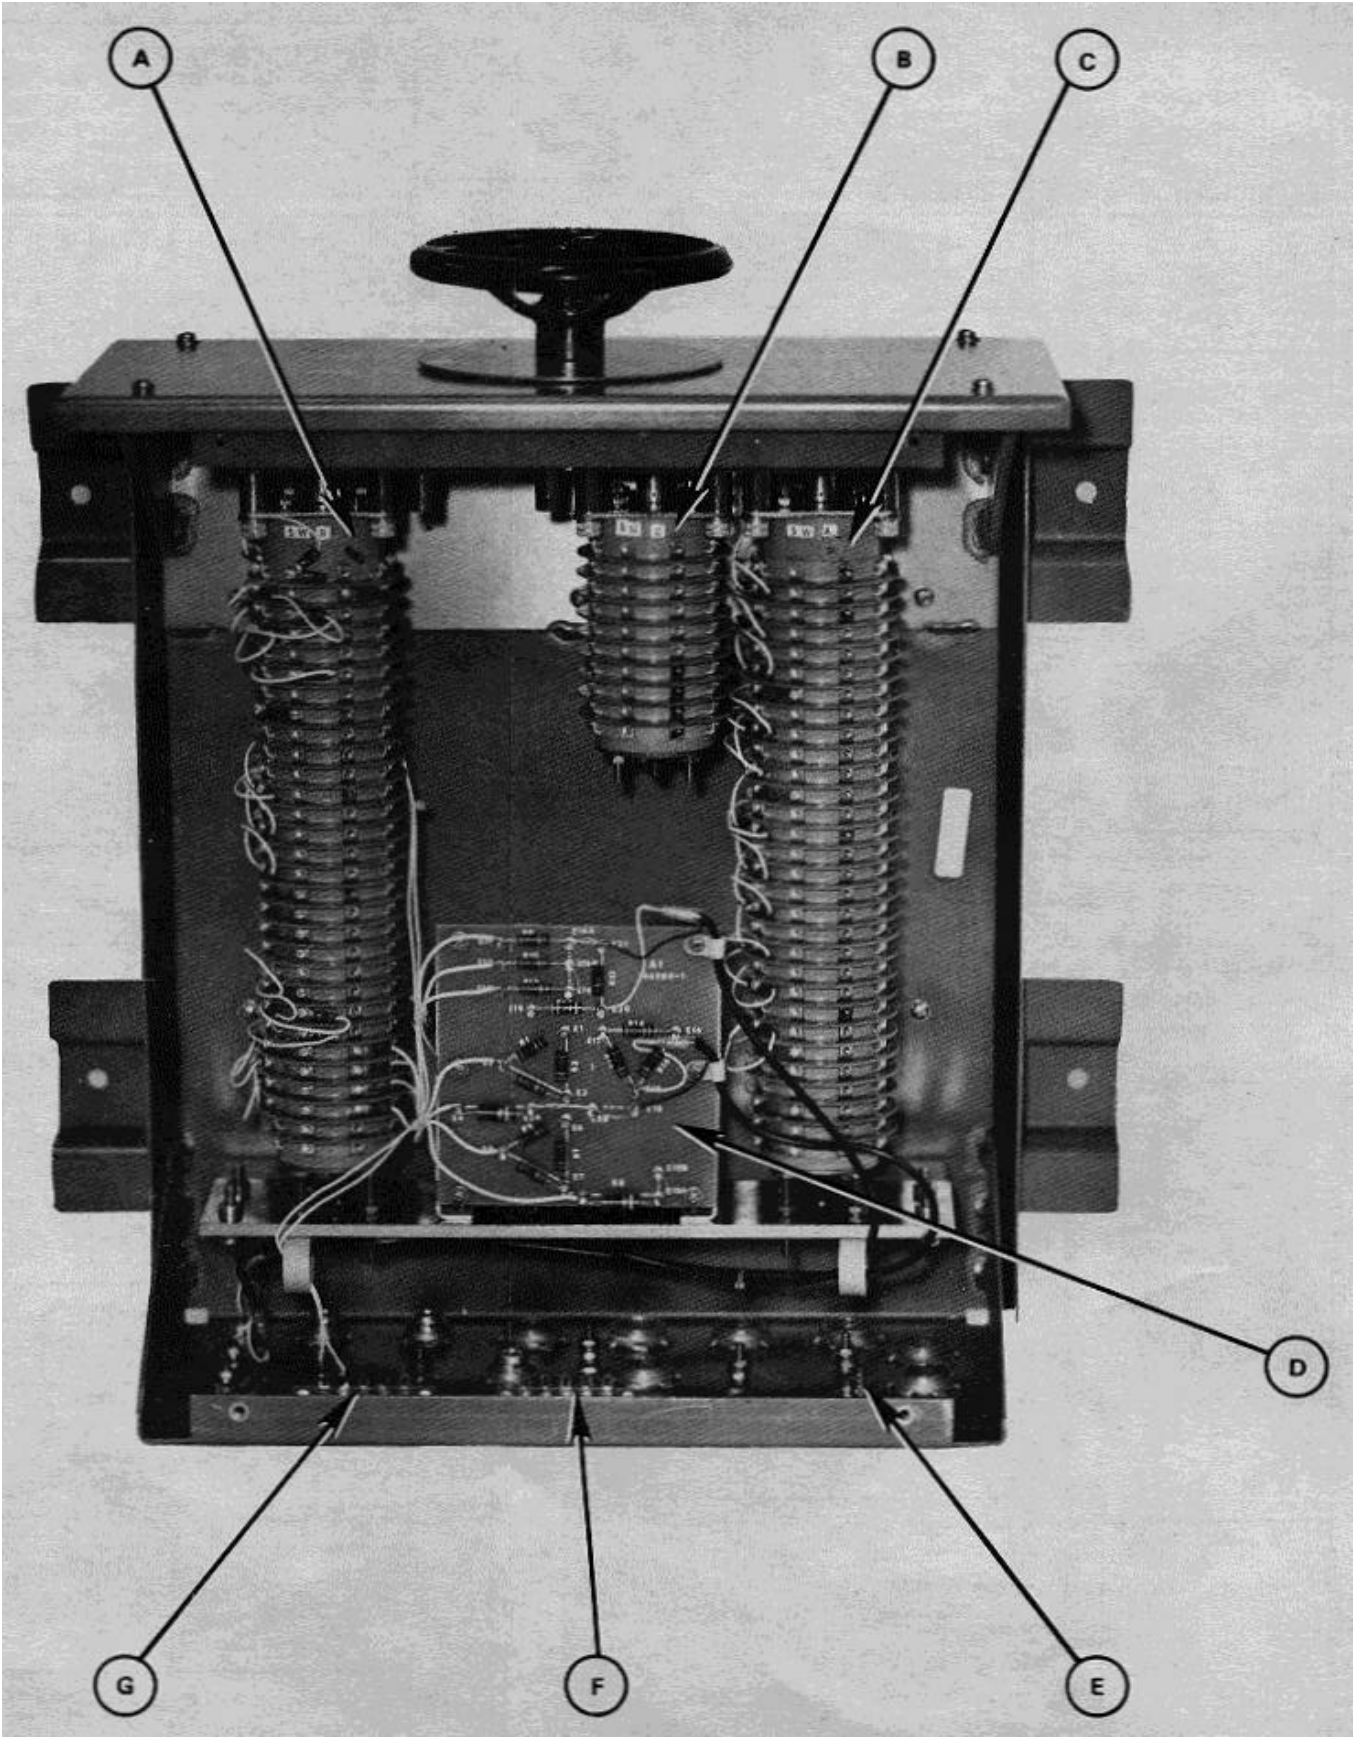

Figure 5-10 Switching Units SA-2139 (V3, V4) and SA-2156 (V2) Parts Location
Switching Units SA-2139 and SA-2156 (Interswitches) are passive multi-position switching assemblies which provide system mode selection control. Radar Set AN/SPS-64(V)2 uses one Switching Unit SA-2156. Radar Sets AN/SPS-64(V)3 and (V) 4 each use two Switching Units SA-2139. Switching Units SA-2156 and SA-2139, although electrically quite different, are physically similar; the locations of major components and assemblies within the units are shown on Figure 5-10. Schematic diagrams, parts list tables and assembly drawings for both Switching Units are contained in Section 6.5 of Chapter 6. Access to the components within either Switching Unit is obtained by removing the four screws on the front of the unit and removing the outer shell